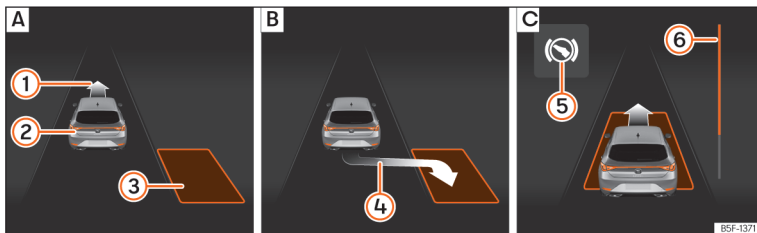
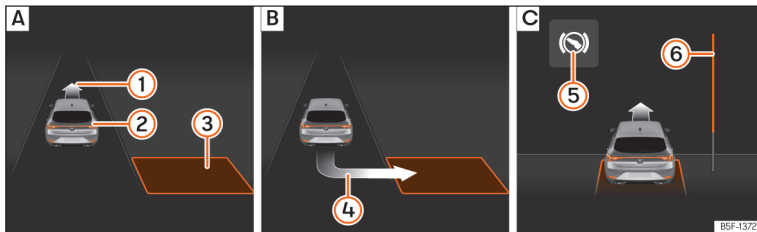

Fig. 159 On the instrument cluster display: angle parking. **A**: Finding a parking space **B**: Parking position. **C**: Manoeuvring.
Fig. 160 On the instrument cluster display: angle parking. **A**: Finding a parking space **B**: Parking position. **C**: Manoeuvring.
- Look at the instrument cluster screen to see if the space has been detected as “appropriate” and if the correct position for parking has been reached »» Fig. 159 **B** or »» Fig. 160 **B**. The space is considered “appropriate” if the instrument cluster display shows the parking indication **4**.
- Reverse until the continuous ParkPilot signal sounds; **OR:** reverse until the indication to move forward appears on the instrument panel display >>> Fig. 159 [C] or >>> Fig. 160 [C]; **OR:** reverse until the **Park Assist finished** message appears on the instrument cluster display. The progress bar [6] indicates the distance to cover.
- Move forward until the continuous ParkPilot signal sounds; **OR:** move forward until the reverse indication appears on the instrument panel display. The Park Assist system steers the vehicle forward and back until it centres it in the space >>> Fig. 159 [C] or >>> Fig. 160 [C].
The progress bar >>> Fig. 159 [6] and >>> Fig. 160 [6] on the instrument cluster display shows the relative distance to be covered as a symbol. The greater the distance, the fuller the progress bar. When driving forward, the content of the progress bar decreases upwards, and when reversing, it decreases downwards.